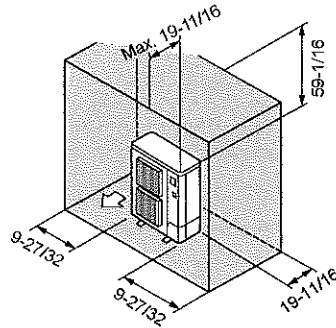

Fig. 3-10
- ⑧ Obstacles at rear, sides, and above only (Fig. 3-10)